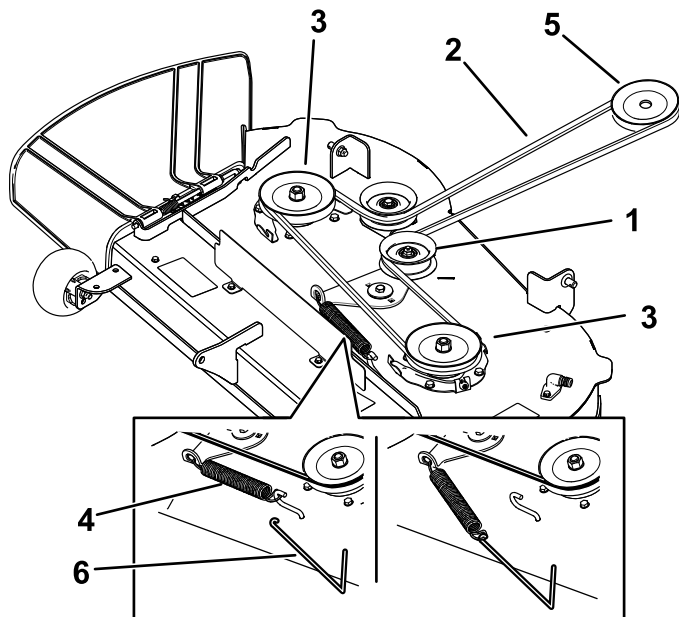
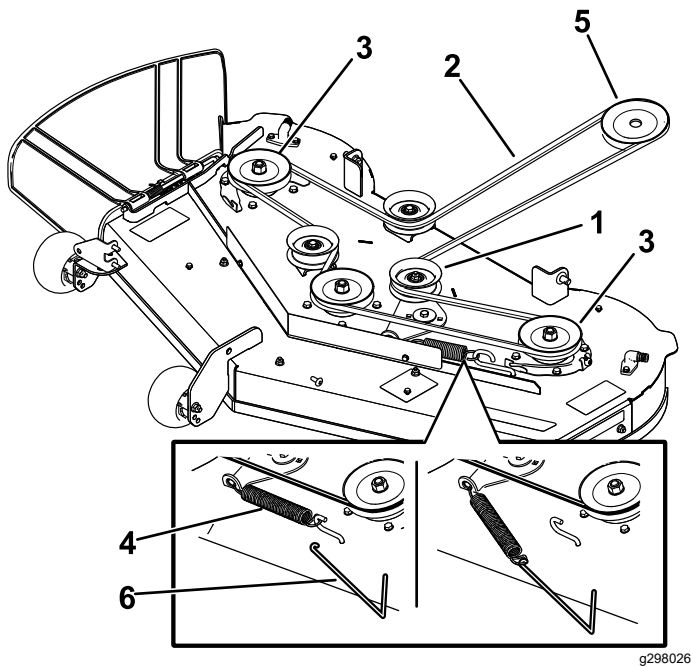

Figure 51
Figure 52
6. Using a spring-removal tool (Toro Part No. 92-5771), remove the idler spring from the deck hook to remove tension on the idler pulley, and roll the belt off the pulleys (Figure 51 or Figure 52).
7. Route the new belt around the engine pulley and mower pulleys (Figure 51 or Figure 52).
8. Using a spring-removal tool (Toro Part No. 92-5771), install the idler spring over the deck hook and place tension on the idler pulley and the mower belt (Figure 51 or Figure 52).